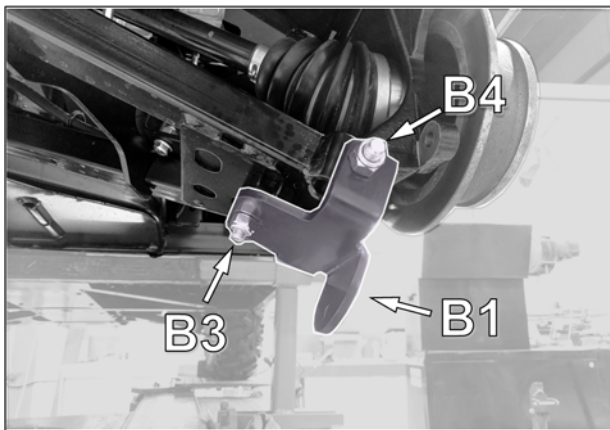

Fig. 6
- Position anchor bracket (B1) under lower suspension arm. Insert new M12x170mm bolt (B4) through anchor bracket, lower suspension arm and wheel knuckle. See Fig. 6